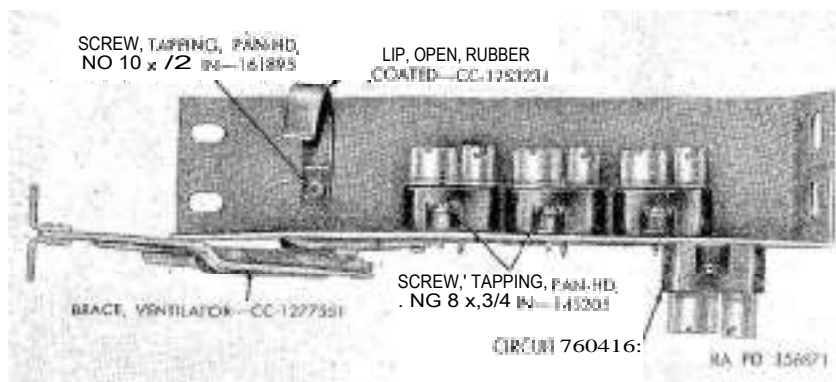
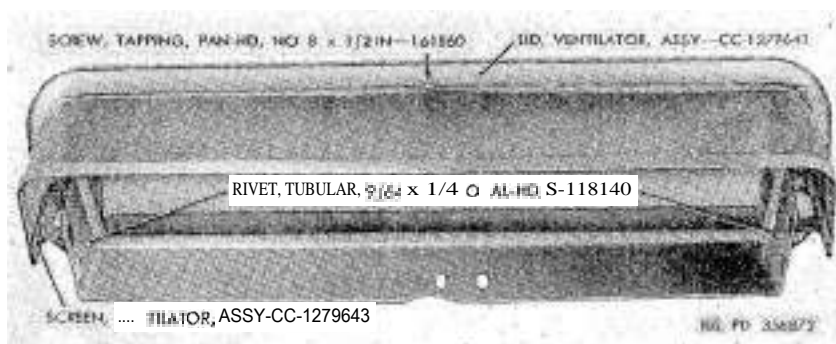
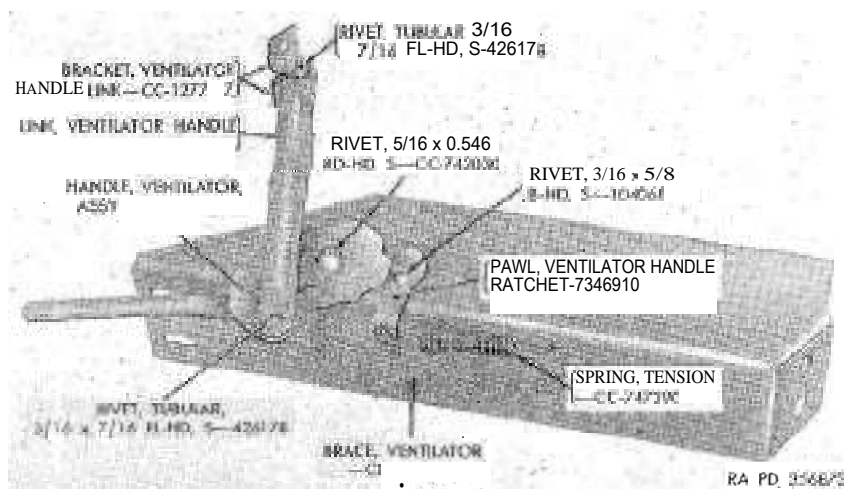

Figure 198. Link with brace assembly, circuit breakers, and clip.
Figure 199. Ventilator lid assembly.
Figure 200. Link with brace assembly.
b. Remove Circuit Breakers and Clip From Ventilator Brace Assembly (fig. 198).
- (1) Remove tapping screws. This will release the circuit breakers from ventilator brace assembly.
- (2) Remove tapping screw. This will release rubber coated open clip from brace assembly.
c. Remove Cowl Ventilator Screen Assembly From Ventilator Lid Assembly (fig. 199) . Remove tapping screw and two rivets. This will release the cowl ventilator screen assembly from the ventilator lid assembly.
d. Remove Ventilator Handle Assembly and Ventilator Handle Ratchet Pawl From Ventilator Brace Assembly (fig. 200) .
- (1) Remove tension spring.
- (2) Grind ends from rivets and drift rivets from brace assembly. This will release the ventilator handle assembly and ventilator handle ratchet pawl. If it is necessary to replace the handle assembly, remove rivet, which connects ventilator handle link to the handle. This can be accomplished with a punch and hammer.
- (3) Support ventilator handle link and drive rivet from ventilator handle link brackets and link with a punch and hammer.
- (2) Inspect ventilator screen assembly (*fig. 199*) for corrosion, holes, distortion, or broken brackets. If any of these conditions exist, replace screen assembly.
- (2) Inspect ventilator handle link and ventilator handle link brackets for corrosion, distortion, or cracks. If replacement is necessary, repairs can be accomplished by installing a new link with brace assembly, ventilator handle link (*fig. 200*), or ventilator handle link brackets (*fig. 200*).
d. Inspect Ventilator Handle Assembly and Ventilator Handle Ratchet Pawl (fig. 200).
- (1) Inspect ventilator handle assembly for broken welds, corrosion, damage, worn or loose rivet. If the weld between handle and ratchet is broken, satisfactory repairs can be accomplished by rewelding handle to ratchet. Replace rivet if it is loose or worn. If parts are damaged by corrosion, replace link with brace assembly or install a new ventilator handle assembly.
- (2) Inspect ventilator handle ratchet pawl for wear, loose or worn rivet, or corrosion damage. If rivet is loose or worn, install new rivet. If pawl is damaged by corrosion, repairs can be accomplished by installing a new link with brace assembly or a new ventilator handle ratchet pawl.
a. Install Ventilator Screen Assembly (fig. 199).
- (1) Position ventilator screen assembly on ventilator lid assembly. Install No. 8 x $\frac{1}{3}$ pan-head tapping screw, but do not tighten.
- (2) Install one $\frac{9}{64}$ x $\frac{1}{4}$ oval-head steel tubular rivet through each screen-bracket and lid deflector. Set rivets with a rivet punch. Tighten screw.
b. Assemble Parts on Ventilator Brace (fig. 200).
- (1) Position ventilator handle link brackets on short offset end of ventilator handle link and insert a $\frac{3}{16}$ x $\frac{7}{16}$ flat-head steel tubular rivet. Set rivet with a rivet punch.
- (2) Insert a $\frac{3}{16}$ x $\frac{7}{16}$ flat-head steel tubular rivet through ventilator handle assembly from handle side. Position No. 10 plain washer over rivet followed by ventilator handle link, embossed side of link away from handle to prevent interference. Set rivet with a rivet punch.
- (3) Place ventilator handle assembly on brace with link and handle toward tapered end of brace. Insert a $\frac{5}{16}$ x 0.546 round-head steel rivet with head on handle side. Set rivet and exercise care to prevent binding of handle.
- (4) Place ventilator handle ratchet pawl on brace so that pawl indexes with ratchet on handle. Insert a $\frac{3}{16}$ x $\frac{5}{8}$ button-head steel rivet with head on pawl side. Set rivet and exercise care to prevent binding of pawl.
- (5) Install ventilator tension spring to pawl and brace.
- (6) Position one of the circuit breakers on handle side of brace assembly (*fig. 198*). Install two No. 8 x $\frac{3}{4}$ pan-head tapping screws and tighten.
- (7) Position other circuit breakers on inside surface of brace assembly (*fig. 198*). Install two No. 8 x $\frac{5}{8}$ pan-head tapping screws in each circuit breaker and tighten.
- (8) Position rubber coated open clip on brace assembly (*fig.*